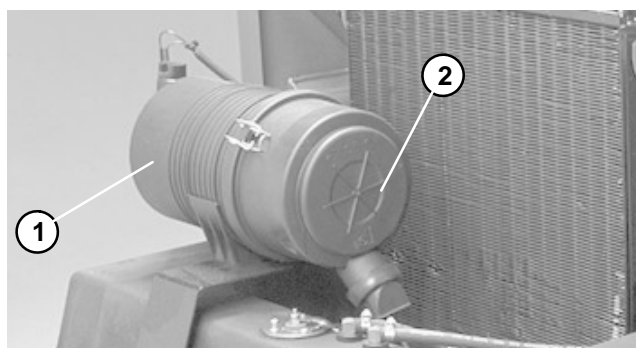

Figure 11
3. Check air cleaner body for damage which could possibly cause an air leak. Replace a damaged air cleaner body (Fig. 11).
5. Be sure cover is sealing around air cleaner body (Fig. 11).
6. Release latches securing air cleaner cover to air cleaner body. Separate cover from body. Clean inside of air cleaner cover (Fig. 11).